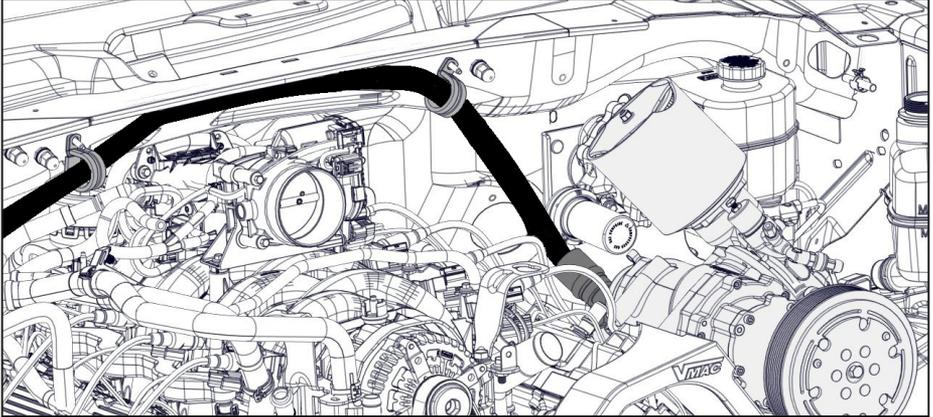

Figure 38 — Route discharge hose
- Route the 1 in discharge hose to the firewall, then toward the passenger side of the vehicle. Ensuring there is adequate slack to accommodate for engine movement, secure the 1 in hose to the firewall with the supplied P-clips (Figure 38).